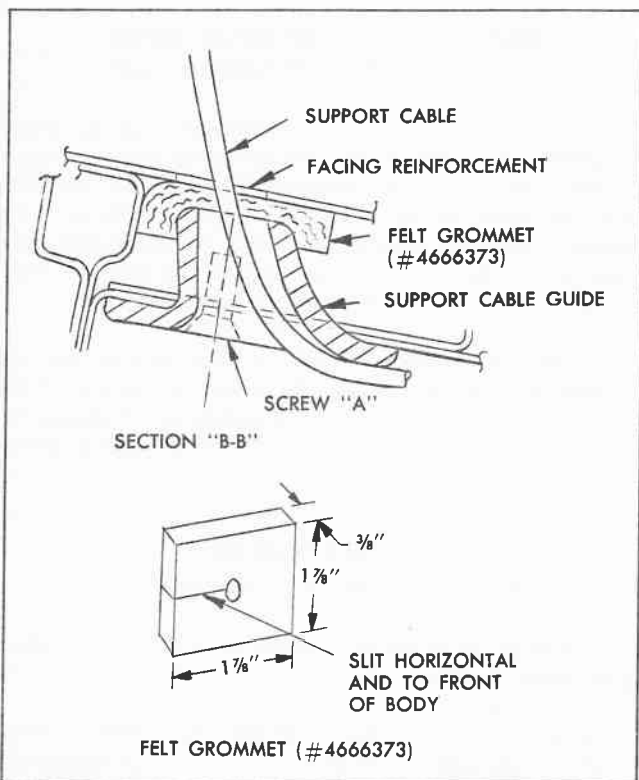

Fig. 6 Installation of Felt Grommet
3. Slip the new grommet, Part No. 4666373, over the cable and into position against the back body opening facing reinforcement. See Fig. 6.